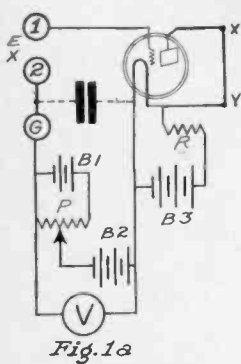
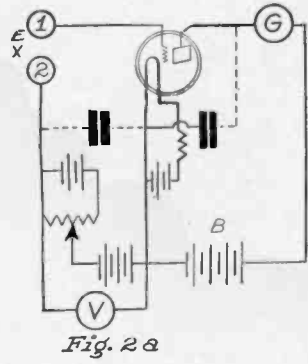

Fig. 1a
Fig. 2a
- Fig. 1a. Diagram of a simple vacuum tube voltmeter based on the operation of the Fleming two-electrode valve.
- Fig. 2a. Standard three-element vacuum tube voltmeter in which the plate current is used to give an indication.
The essential circuit of this simplified voltmeter is shown in Fig. 1a.
If it is desired to use the standard vacuum tube voltmeter the same device may be used by connecting it as shown in Fig. 2a. The three element tube is now used in the regular way. The indicating meter G is placed in the plate circuit of the tube to show the DC plate current and a plate battery B is added to the equipment. For high frequency measurements two by-pass condensers should now be used as shown by the dotted lines.
The device described here may be used both as shown in Fig. 1a and Fig. 2a by making a few changes in the connection. The simple connection shown in Fig. 1a requires less equipment.
There is a slight advantage in using the second hook-up in that the input impedance to the device is slightly greater, that is, it is more nearly a potential meter. When grid current is used to give an indication as in Fig. 1a the input resistance has a finite value but it is extremely large so that for all practical purposes it may be regarded as infinite. The more sensitive is the indicating meter G, the greater is the impedance when the reading is taken. In the case of the second circuit no grid current at all flows since the plate current is used to give the indication on meter G. Hence the resistance is practically infinite.